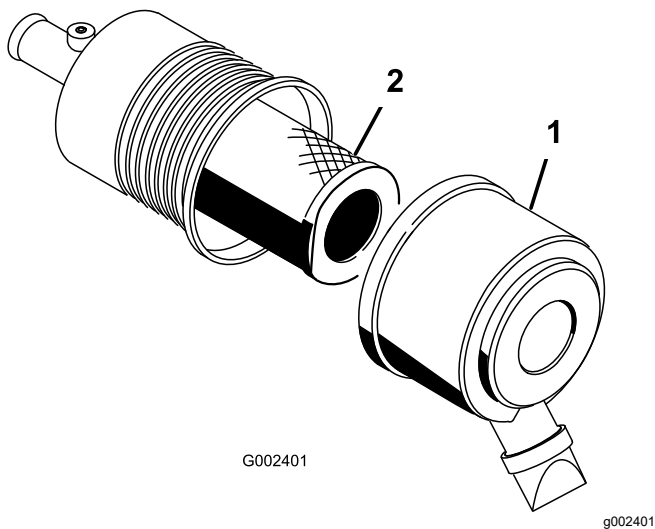

Figure 66
1. Release the latches on the air cleaner and pull the air-cleaner cover off the air-cleaner body (Figure 66).
3. Gently slide the filter out of the air-cleaner body (Figure 66).
5. Carefully slide the filter over the body tube (Figure 66).
6. Install the air-cleaner cover with the side facing up, and secure the latches (Figure 66).